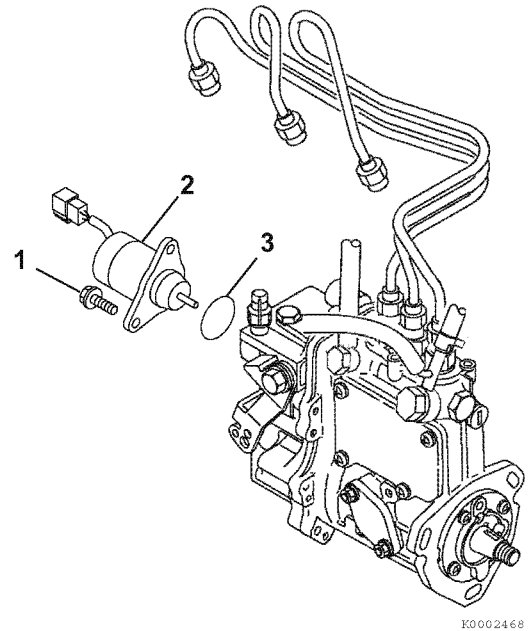

Figure 7-22
3. Remove two screws (Figure 7-22, (1)). Remove the stop solenoid (Figure 7-22, (2)) and O-ring (Figure 7-22, (3)).